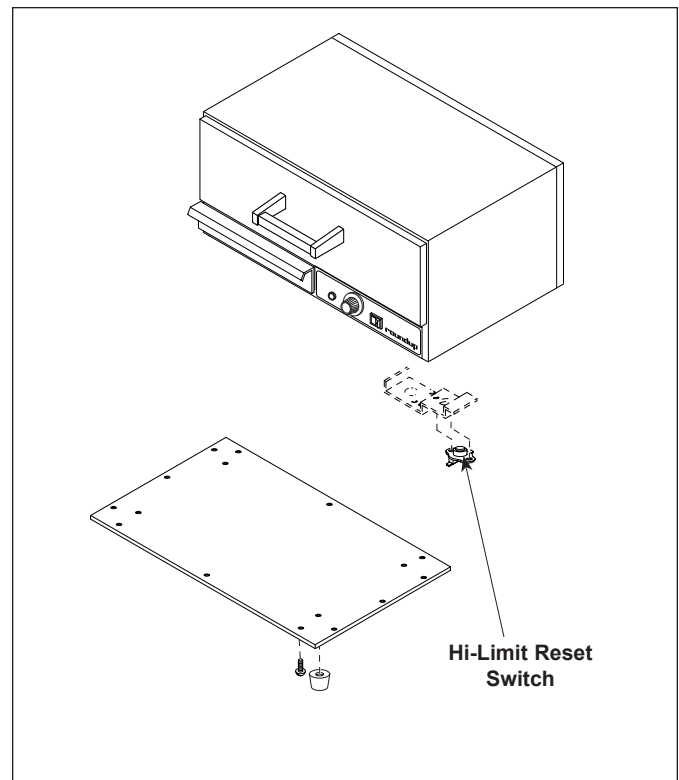

Figure 4. Hi-Limit Reset
2. Remove the base plate and push in the reset switch located on the bottom of the thermostat (Figure 4).